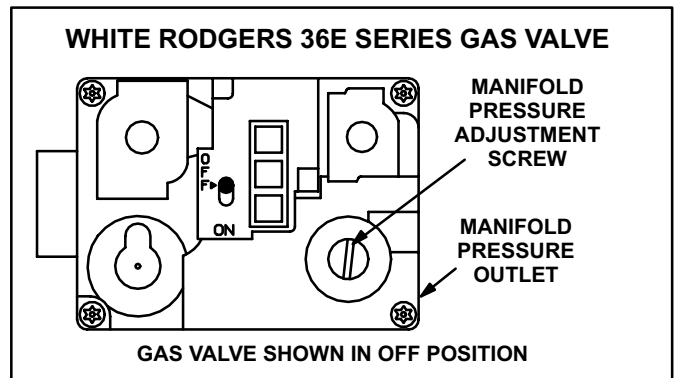

FIGURE 11
12-Gas Valve Figures 11, 12 & 13
- 6 - *White Rodgers Gas Valve* -- Switch lever to **OFF**. See figure 11.
- 1 - Connect a test gauge to outlet pressure tap on gas valve. See figures 11, 12 and 13. Start unit and allow 5 minutes for unit to reach steady state.